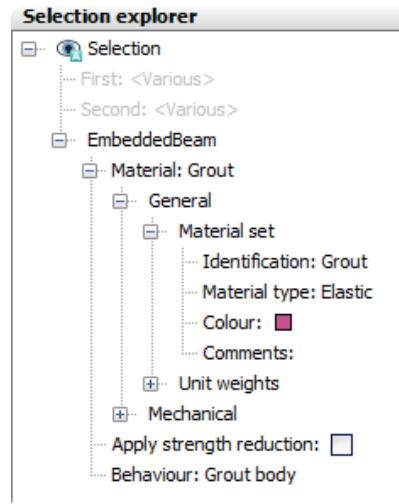

Figure 82: Embedded beam in the Selection explorer
6. Set the **Behaviour** of the embedded beam to **Grout body** as shown in Figure 82 (on page 109).